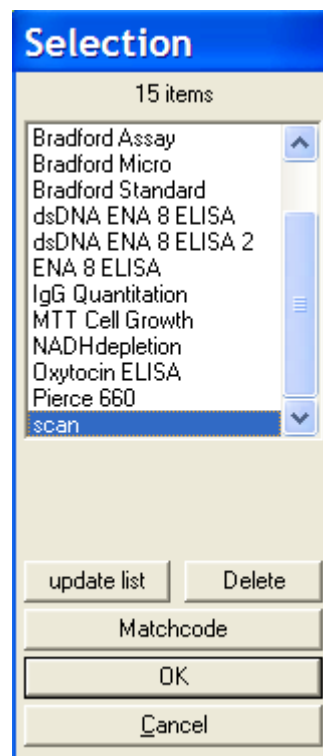

Figure 8-12: Selection – test definitions
2. Selection appears (Figure 8-12).